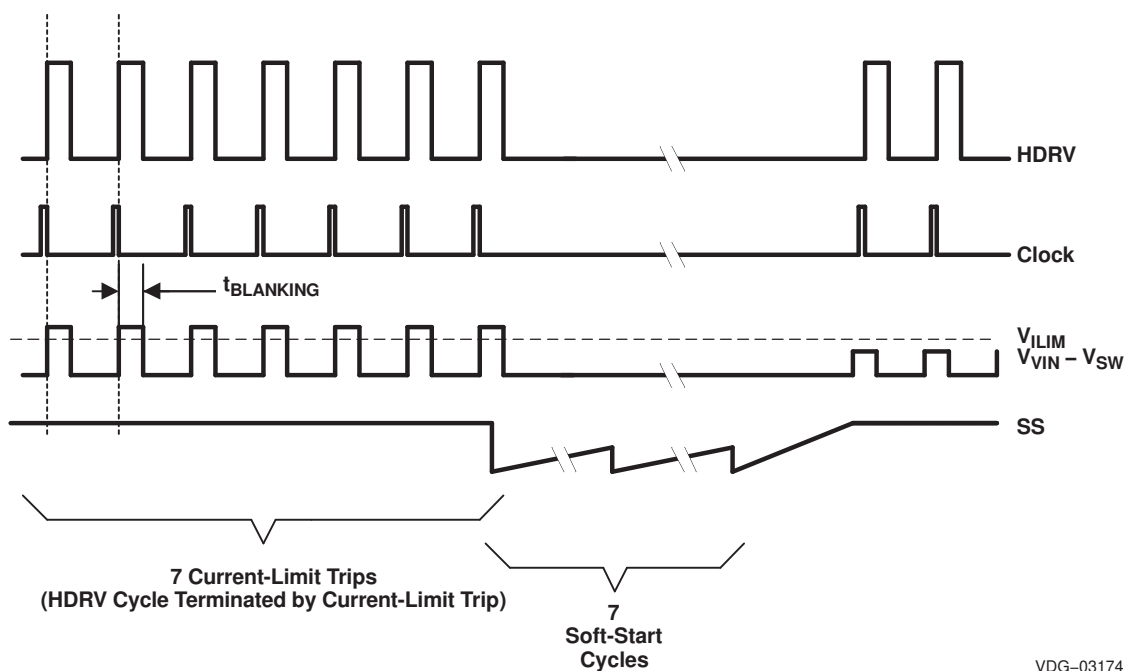

Figure 27. Typical Fault Protection Waveforms
The second-tier protection incorporates a fault counter. The fault counter is incremented on each cycle with an overcurrent pulse and decremented on a clock cycle without an overcurrent pulse. When the counter reaches seven (7), a fault condition is declared by the controller. When this happens, the outputs are placed in a state defined in Table 2. Seven soft-start cycles are initiated (without activity on the HDRV and LDRV outputs) and the PWM is disabled during this period. The counter is decremented on each soft-start cycle. When the counter is decremented to zero, the PWM is re-enabled and the controller attempts to restart. If the fault has been removed, the output starts up normally. If the output is still present, the counter counts seven overcurrent pulses and re-enters the second-tier fault mode. Refer to Figure 27 for typical fault-protection waveforms.